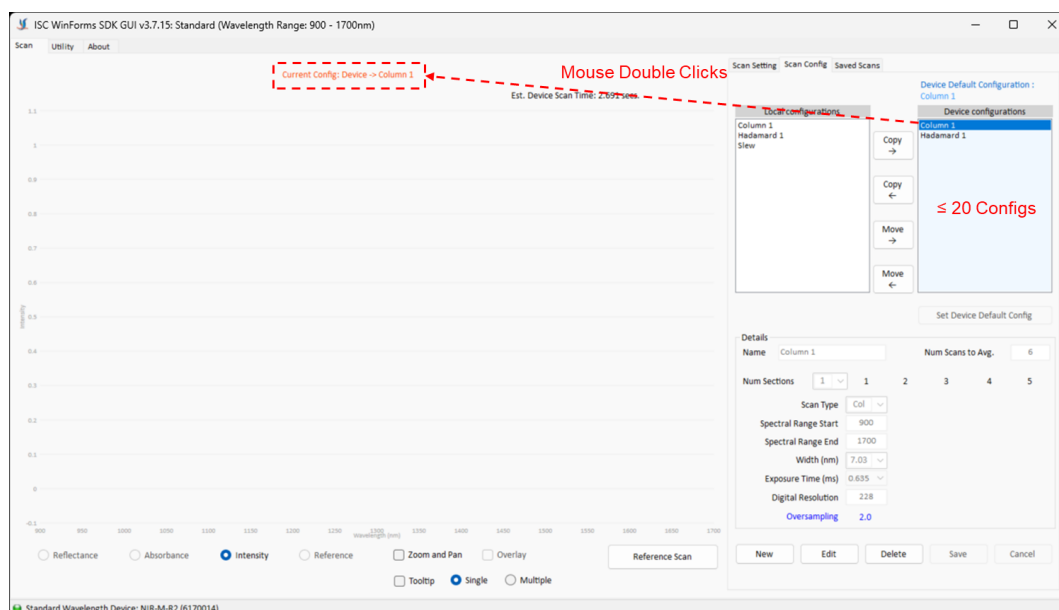

Figure 1-3 Scan Config
The scan config is divided three sections shown in Figure 1-3:
- ♦ **Oversampling:** This number displays the rate of sampling patterns. It is calculated by the used digital resolution divided by the number of wavelength range divided by pattern width (rounded to integer). For example in the figure 1-3 will be $228 / ((1700 - 900) / 8) = 2.28$. The results shown is rounded to the first decimal digital, so it is 2.3. The software limits the maximum oversampling rate to 4.5 and recommends the rate to be between 2 to 3.